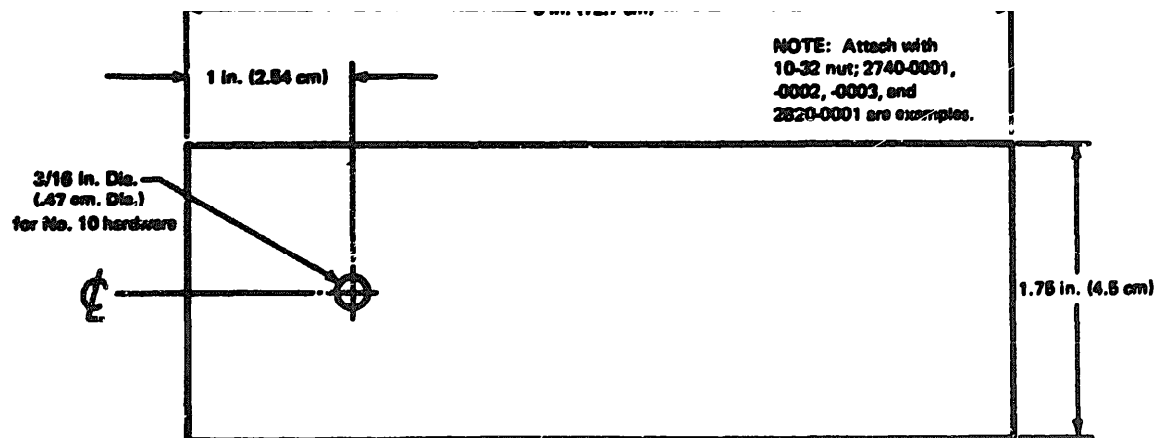
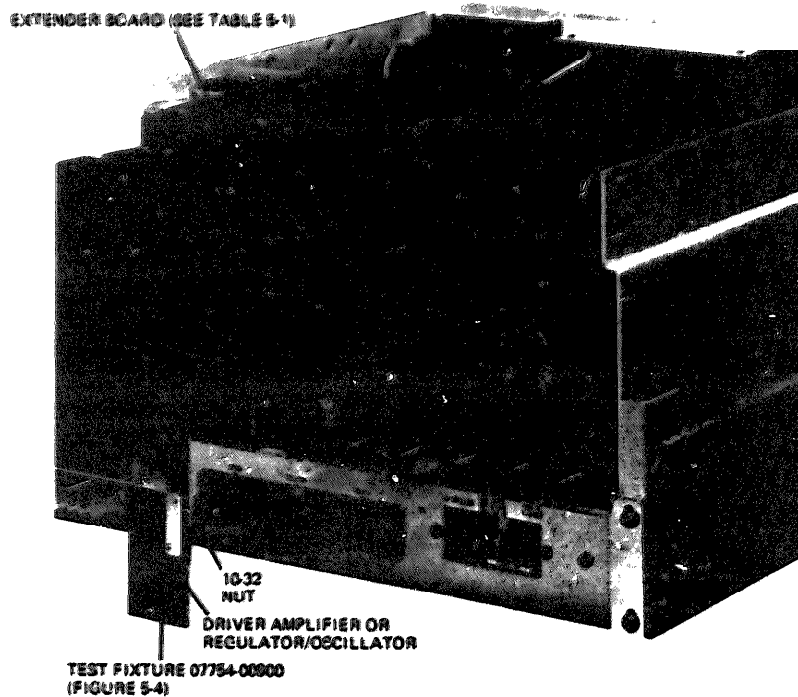

Figure 5-4. Test Cable and Fixture
Figure 5-5. Driver or Regulator Board Test Setup
5-21. To check out the Model 8848A Power Supply, make the cable shown in Figure 5-3, and follow the steps in Table 5-3. To check out the 7758A or 7418A Recorder, follow the procedure in Table 5-4. To facilitate checking, make the cable shown in Figure 5-4. To support the Driver Amplifier or Regulator, Oscillator for testing, fasten the PC board test support shown in Figure 5-4 onto the rear of the heat sink with a No 10 nut (Figure 5-5).
c. As shown in Figure 5-5, install extender board and test fixture with No. 10 nut, 32 threads per inch. Install extender board and regulator/oscillator back into J9. Do not remove screw from No. 8 fiber washer, 7190-0780.